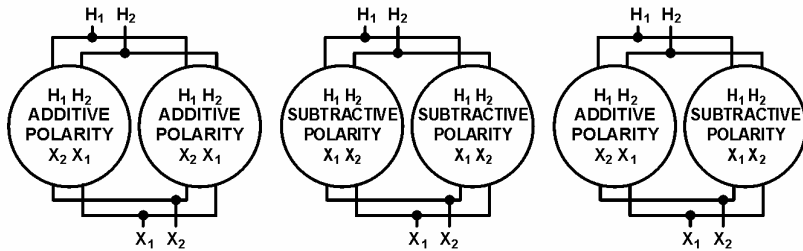

Figure 16 – Single-Phase Paralleling.
- Any combination of positive and negative polarity transformers can be used. However, in all cases, numerical notations **must be followed** on both primary and secondary connections. That is H_1 connected to H_1 , H_2 connected to H_2 , and X_1 connected to X_1 , X_2 connected to X_2 , X_3 connected to X_3 . Note that each subscript number on a transformer must be connected to the same subscript number on the other transformer as shown in figure 16.
With positive and negative polarity transformers, the location of X_1 and X_2 connections on the tanks will be reversed. Care must be exercised to ensure that terminals are connected, as stated above. See figure 16.